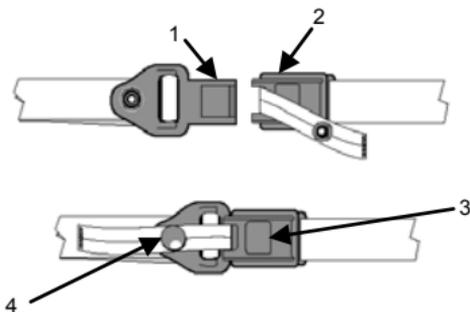

Figure 4. Quick-Release Buckle.
3. Re-attach the quick-release buckle by simply inserting the male portion (Figure 4, Item 1) into the female portion (Figure 4, Item 2), and push until the latch tab (Figure 4, Item 3) clicks. Do not try to push down on the latch tab (Figure 4, Item 3).
4. Secure snap fastener on lanyard (Figure 4, Item 4).